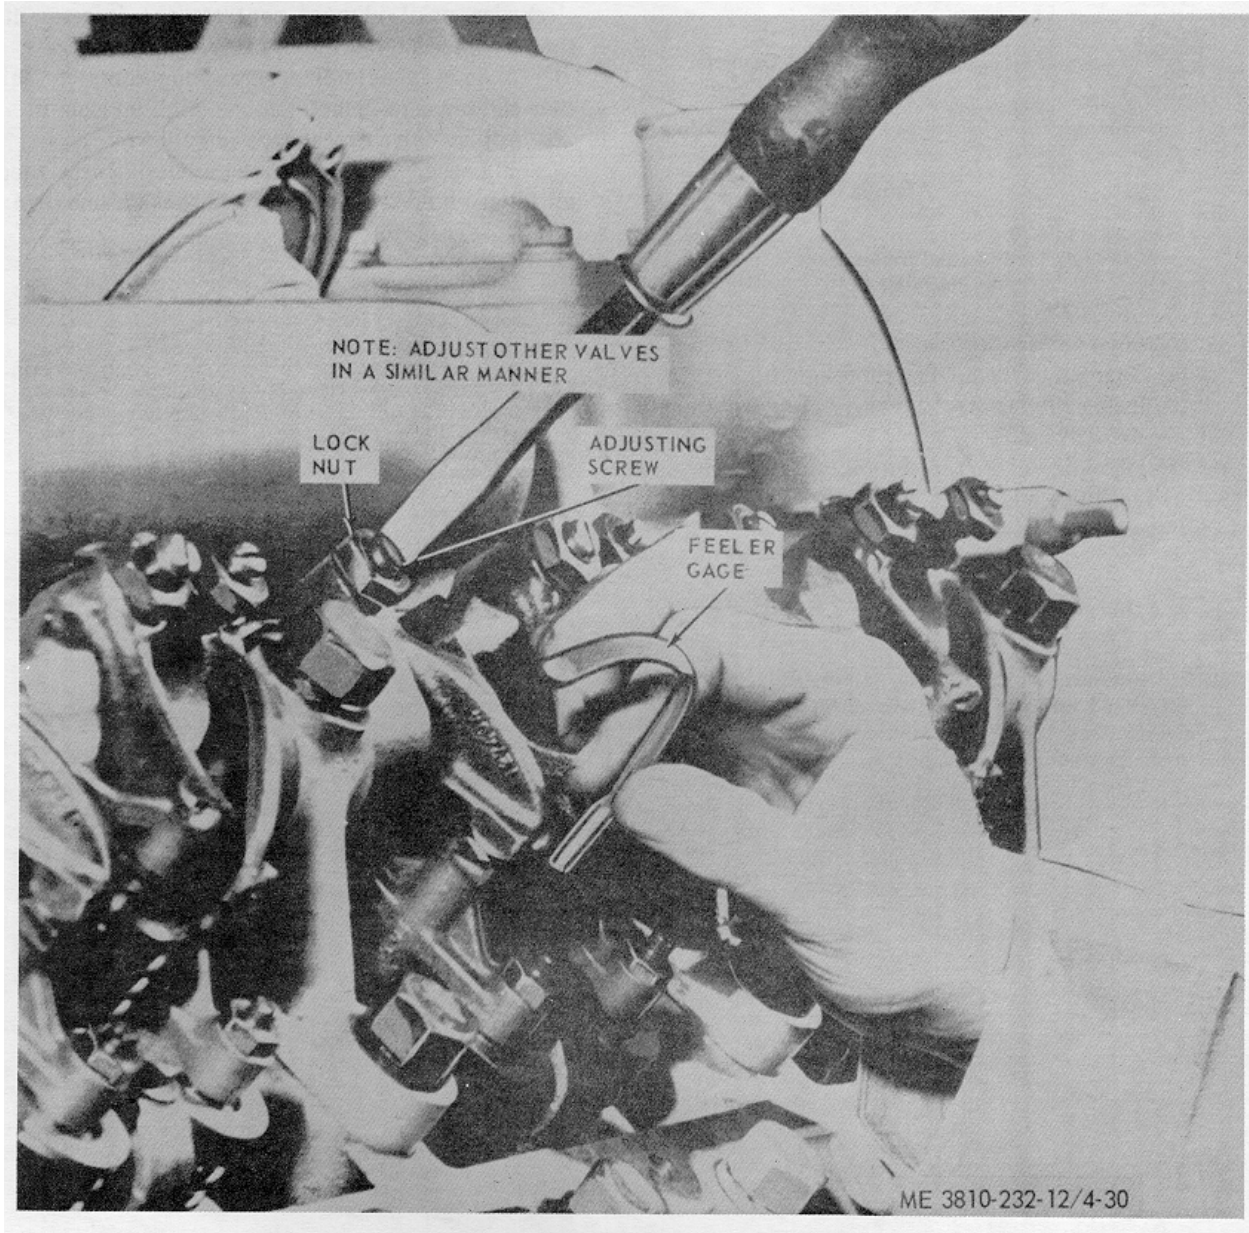

Figure 4-30. Valve adjustment.
(1) Loosen intake valve adjusting screw locknut, illustrated in figure 4-30, and turn adjusting screw to obtain clearance of 0.017 inch (cold), or 0.015 inch (hot).
(2) Tighten locknut.
(3) Loosen exhaust valve adjusting screw locknut illustrated in figure 4-30, and turn adjusting screw to obtain clearance of 0.027 inch (cold), or 0.025 inch (hot).
(4) Tighten locknut.